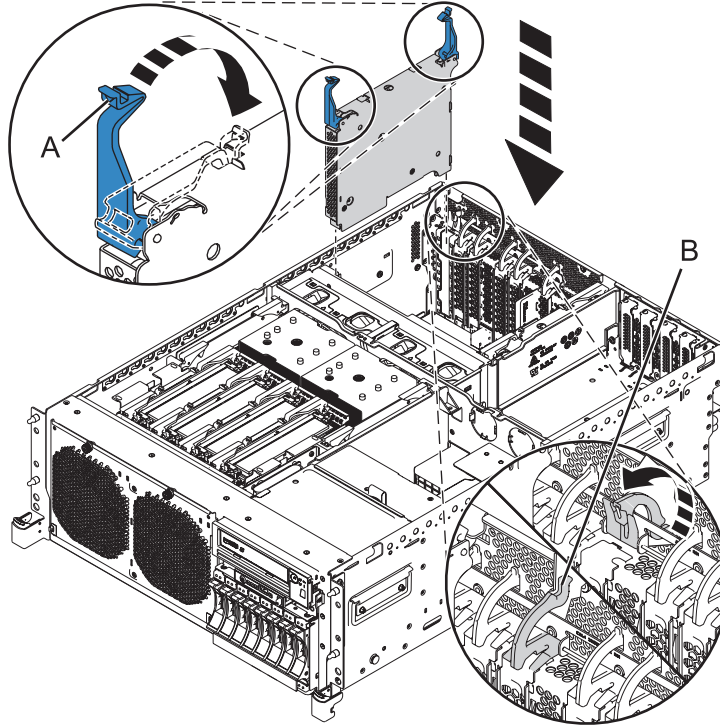
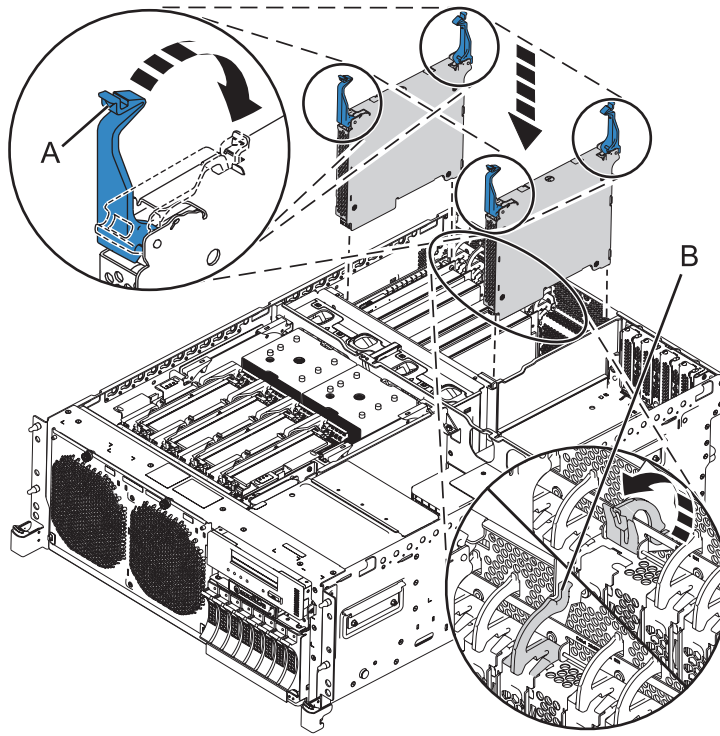

Figure 9. Installing the GX adapter in a rack-mounted 8202-E4B or 8205-E6B system
Figure 10. Installing the GX adapter (FC EJ03) in a rack-mounted 8202-E4C, 8202-E4D, 8205-E6C, or 8205-E6D system
3. Evenly rotate the latches **(A)** into the locked position, as shown in Figure 9 on page 12 and Figure 10 on page 12.